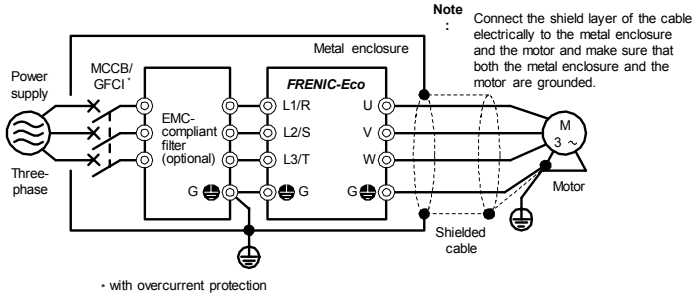

Figure 10.3 Installation of EMC-Compliant Filter (Option)
- 3) If noise radiated from the inverter exceeds the level prescribed in the EMC Directive, enclose the inverter and its peripherals (EMC-compliant filter) inside a metal enclosure as shown in Figure 10.3.